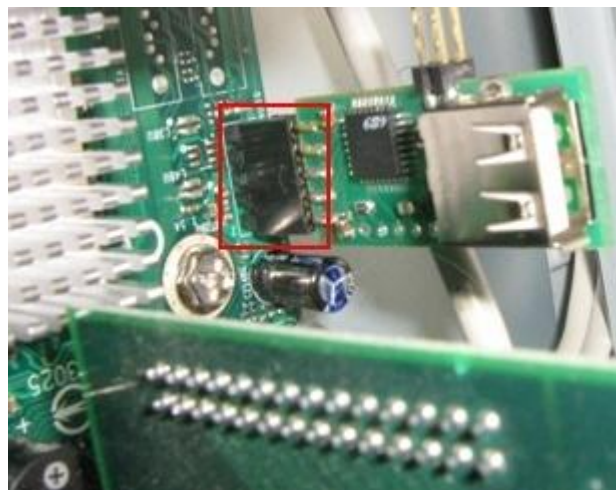

Figure 2.3-8 Connecting the USB Watchdog device to the mother board
2. Connect the USB Watchdog device to USB connector on the mother board (Figure 2.3-8).